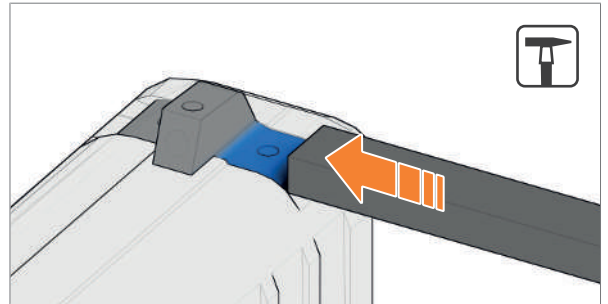

Fig. 36: Remove front sight
3. Remove front sight with tool (Fig. 36).